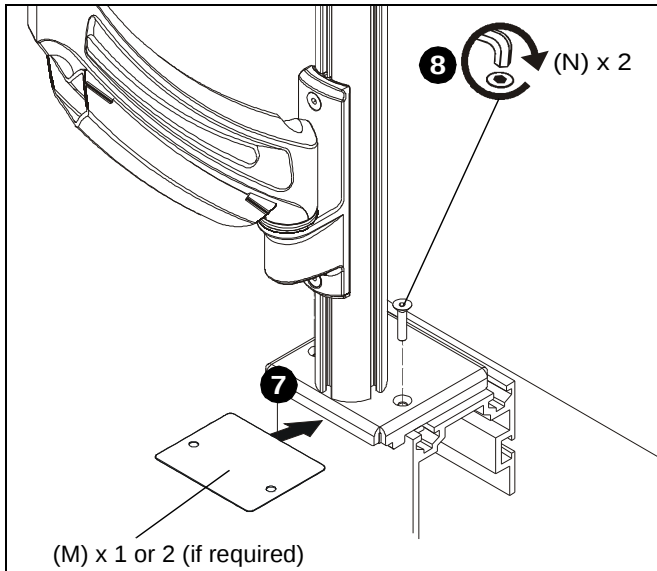

Figure 9
- Remove two #10-32 x 7/8" flat head cap screws (N) holding mount base to channel plate (L).
- Slide one or two shims (M) in between mount base and rail, lining up holes on shim(s) with holes on plate and rail. (See Figure 9)
- Use two #10-32 x 7/8" flat head cap screws (N) to reinstall mount base to channel plate (L). (See Figure 9)